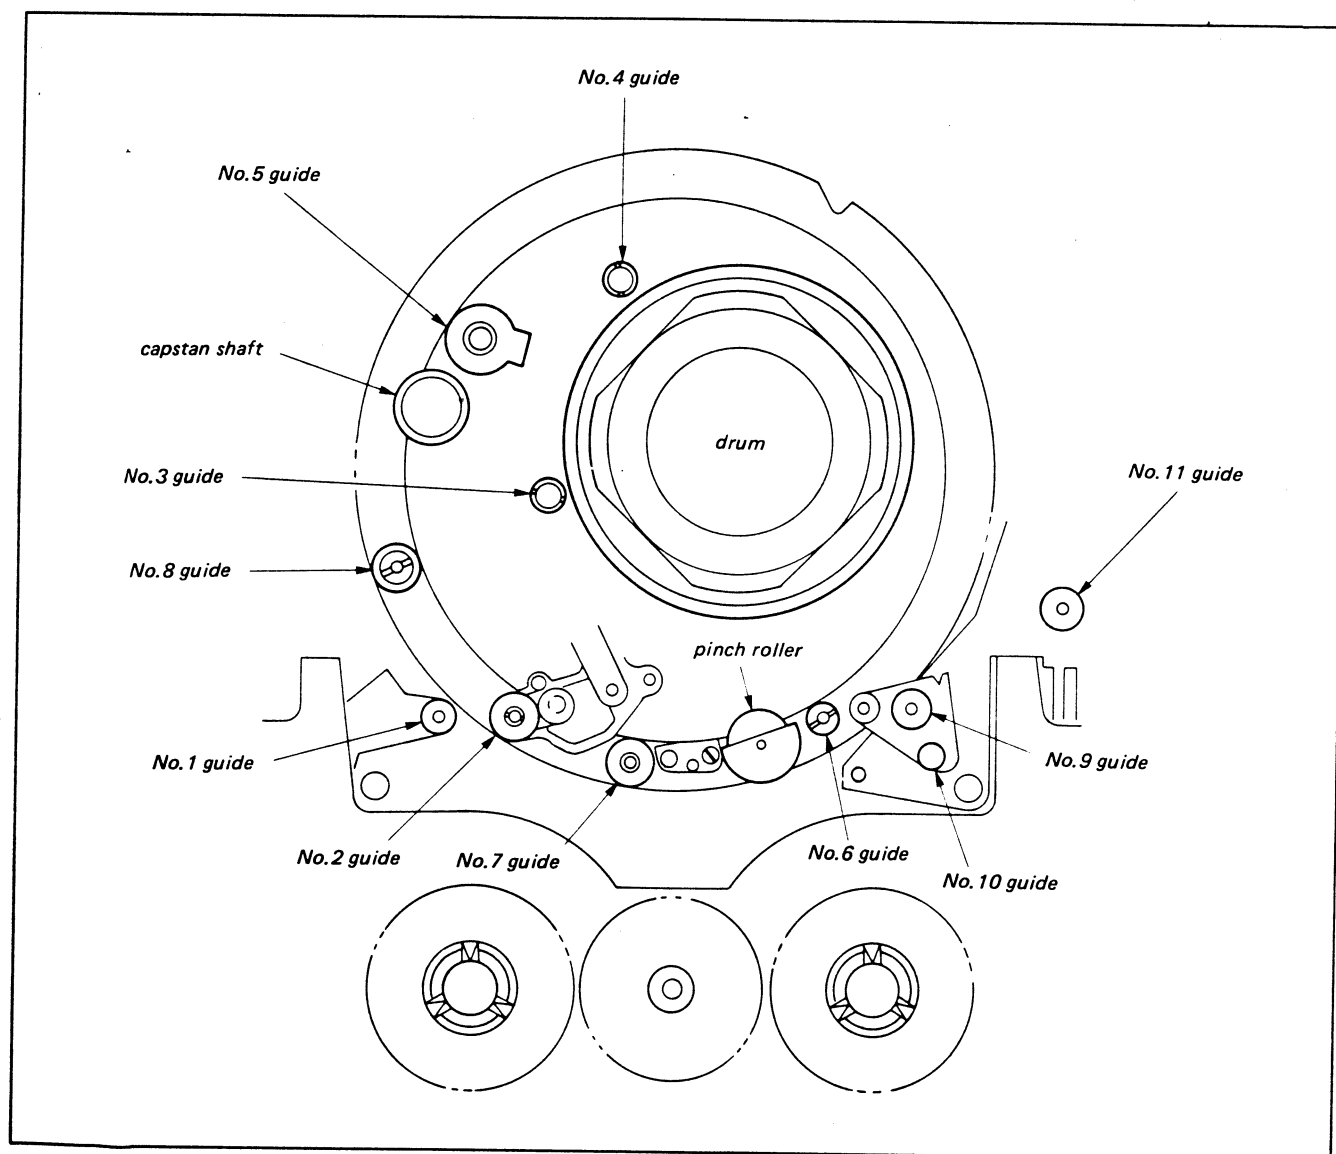

Fig. 2-1.
- 1) Place the cassette compartment assembly in EJECT state, and clean the tape path (No. 1 ~ No. 11 guides, capstan shaft, pinch roller) with a chamois cloth soaked in cleaning fluid. (See Fig. 2-1)